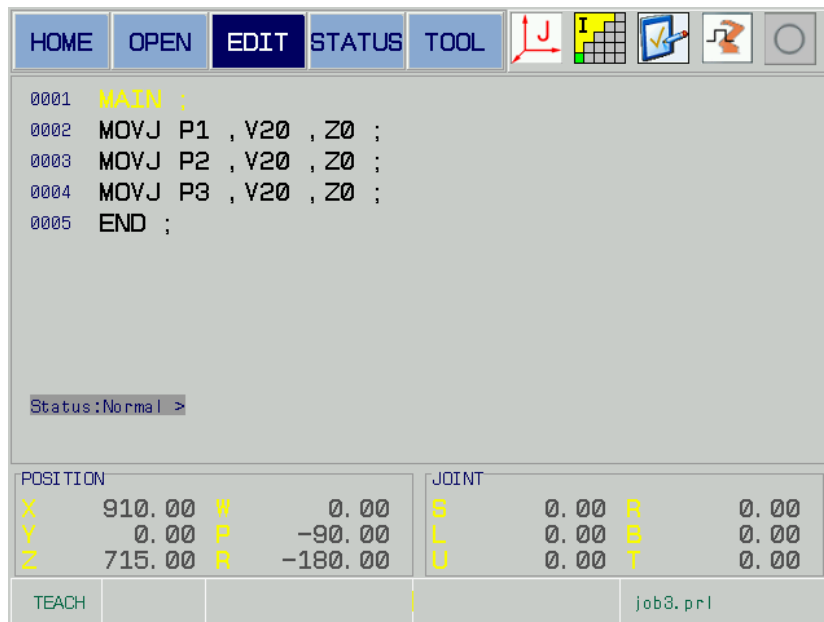

Fig. 2-7
- Cursor stops at the { EDIT} menu after entering the {EDIT} interface, refer to Fig. 2-7